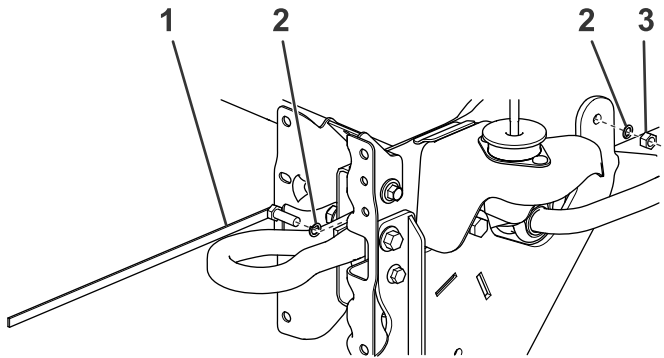

Figure 3
4. Loosely secure the rear of the sideplates to the vehicle frame using a bolt bar, 2 split washers, and a nut (1/2 inch) as shown in Figure 3.